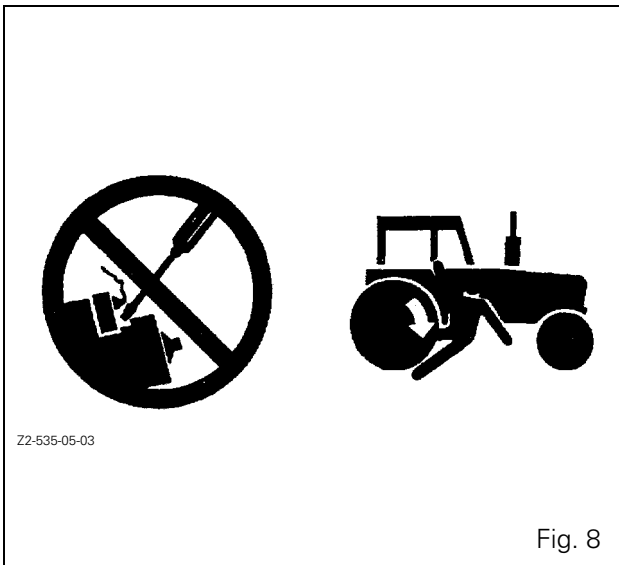

Fig. 8
**DANGER:** Start the engine with the ignition key, from the operator's seat only. **DO NOT ATTEMPT to start the engine by short-circuiting the starter terminals. The machine will start in gear if the neutral start-up circuit is bypassed. This could cause serious injury or death to anyone in the vicinity of the tractor (Fig. 8).**